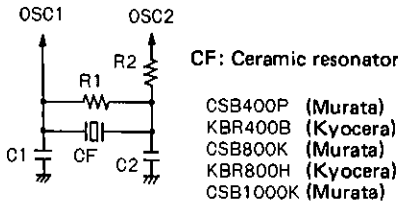

Fig. 3 Recommended Oscillator for Ceramic OSC
Note 1: For pin OSC1, up to oscillation amplitude generated when internally oscillated under the recommended oscillation conditions in Fig. 3 is allowable.
| External Circuit Constants for Ceramic OSC | R1, R2 C1, C2 | See Fig. 3 | | | | |
| Clock OSC Frequency for Ceramic OSC | f _{CFOSC} (1) | Recommended conditions for ceramic OSC, at OSC circuit in Fig. 3 (Note 1) | 384 | 400 | 416 | kHz |